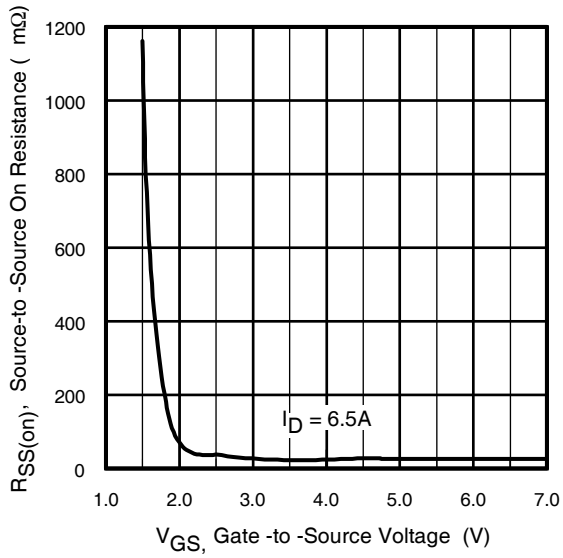

Fig 5. Typical On-Resistance vs. Gate Voltage. ⑤
- ⑤ Figures 5, 6 and 7: G1 and G2 are shorted. See Fig.9a&b.
- ⑥ The diode connected between the gate and source serves only as protection against ESD. No gate over voltage rating is implied.